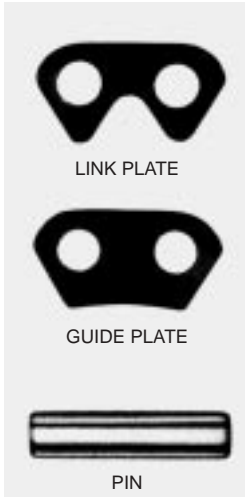

Figure 1.29 Silent Chain Components
- (1) Silent Chains have a very simple construction: only plates and pins. Today's Silent Chains are actually an update of a 19th-century design. ANSI B29.2M-1982 regulates the standard pitch, width, and kilowatt ratings of the chains and sprockets.
- (2) There are eight different pitches from 9.52 mm to 50.8 mm.
- (3) The link plate receives tension and has a notch for engaging the sprockets. There is no notch on the guide plate. These plates act as guides for the sprockets.
- (4) Pins may be round or have other shapes, such as D-shape (Figure 1.29).
- (5) All of the chain components share the tension. Silent Chains have higher capacity than roller chains of the same width.